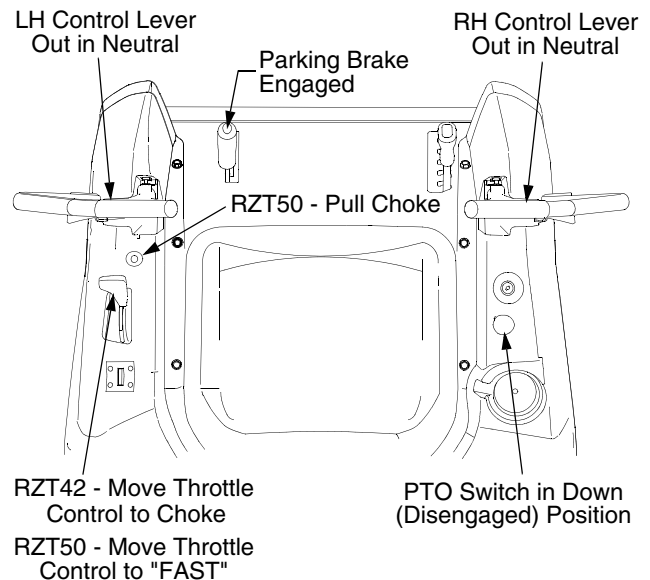

Figure 9
- Move the RH and LH drive control levers fully outward in the neutral position. Refer to Figure 9.
- Engage the parking brake. Refer to Figure 9.
- Make certain the PTO switch is in the disengaged (down) position. Refer to Figure 9.